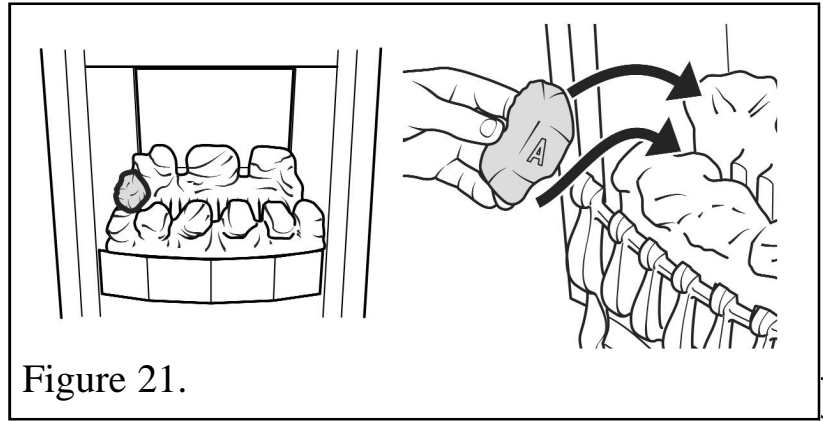

Figure 21.
3. Place a type “A” coal between the front and rear base coals with the letter “A” upright and so that the coal is against the left side of the firebox (See figure 21).